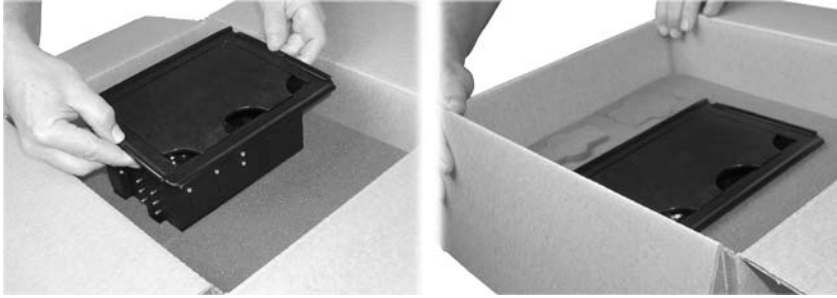

Figure B-7 — Placing the cubby in the carton
11. **CC 300, 600, and 800 only** — Lower the Cable Cubby, with the top closed, into the foam cushion in the shipping carton (figure B-7).